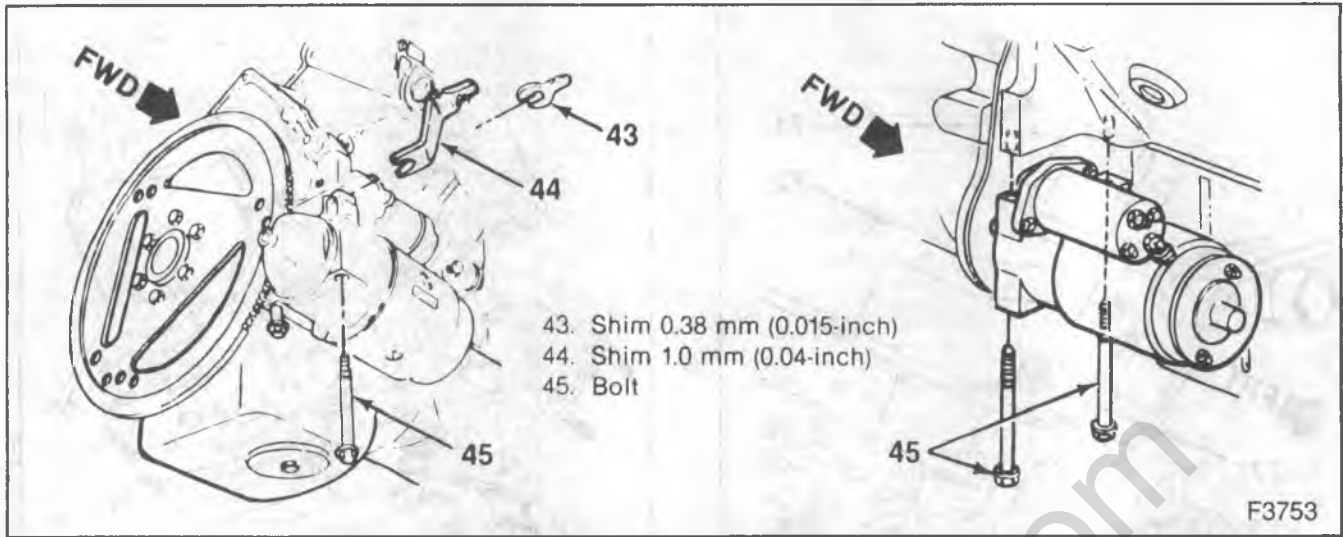

Figure 11—Shimming Gas Engine Starter Motors
- Gas engines (figure 11): Add 1.0 mm (0.04-inch) shims, one at a time, to both long bolts between starter mounting pads and engine, until noise problem is corrected. Do not use more than 2 shims, total.